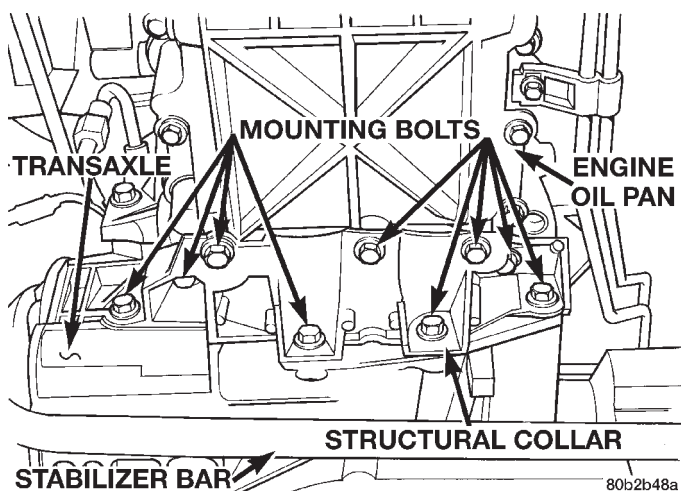
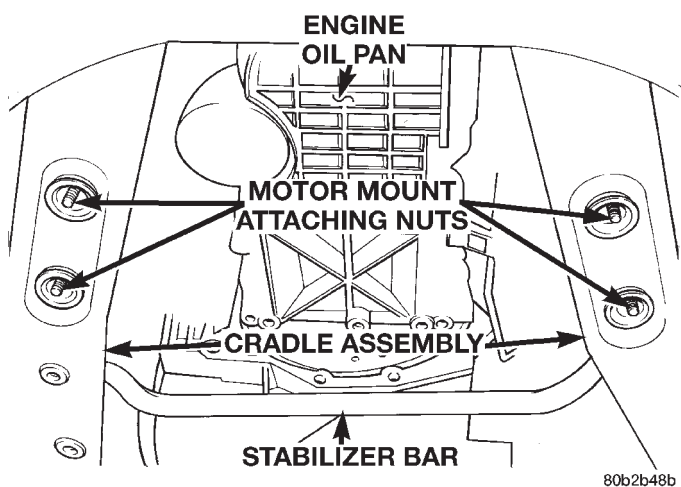

**Fig. 55 Structural Collar**
**Fig. 56 Motor Mount To Cradle Assembly Attachment**
(9) Remove right front strut assembly from vehicle.
(10) Remove the nine bolts securing the structural collar to the engine oil pan and transaxle (Fig. 55).
(11) Remove the 4 nuts attaching the engine motor mounts to the cradle assembly (Fig. 56).
(3) Install the 4 engine motor mount to cradle assembly attaching nuts (Fig. 56). Tighten the 4 nuts to a torque of 61 N·m (45 ft. lbs.).
(4) Install the structural collar to the engine oil pan and the transaxle. The structural collar should be installed using the following sequence:
- Position collar onto engine oil pan and transaxle (Fig. 55).